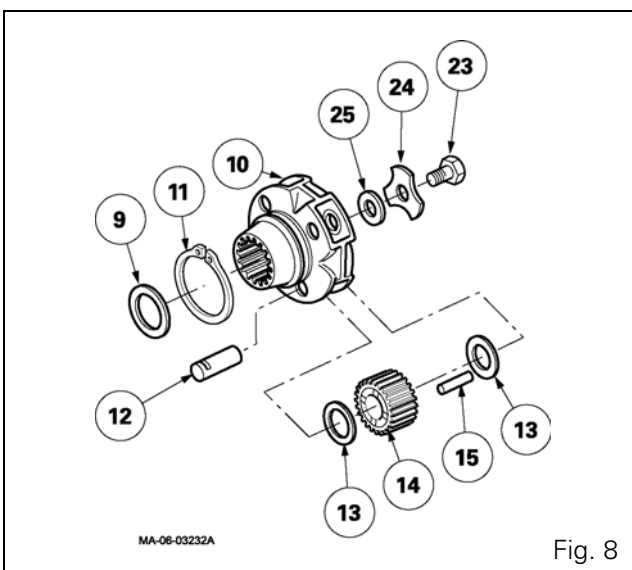

Fig. 8
36. Remove screw (23).
37. Take off the lock washer (24) and the shim(s) (25) (Fig. 8).
38. Remove the planet carrier (10).
39. Open the snap ring (11).
40. With a hammer, lightly tap on the three pins (12).
41. Take out the three pins (12) and the snap ring (11).
42. Remove the three pinion gears (14), the needles (15) and the shims (13).
43. Clean the planet carrier (10), the pins (12) and the pinion gears (14). Check the components.
44. Smear the needles with miscible grease. Fit a row of needles in each pinion gear (Fig. 8).